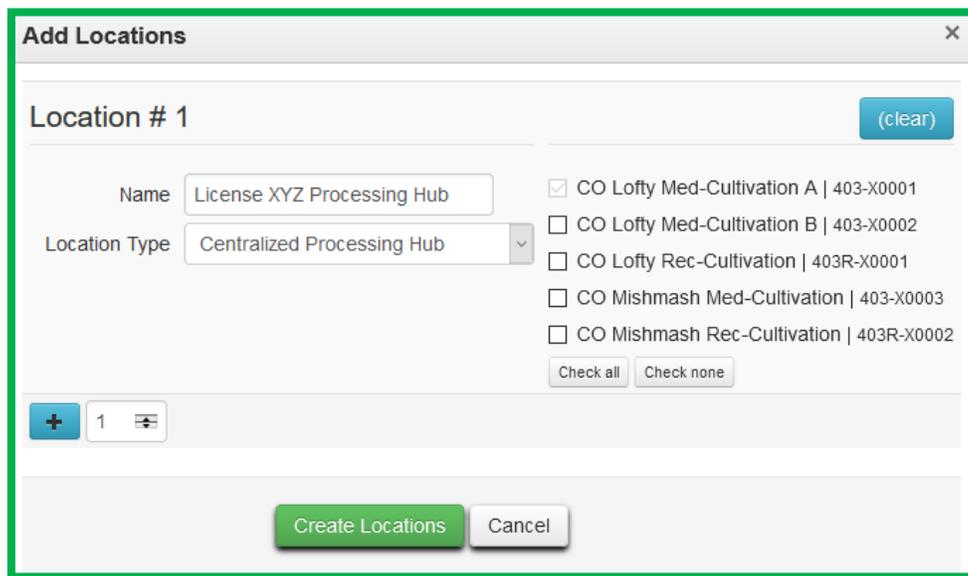

Figure 1: Add New Location
1. Create a new Location with the Location Type Designated as “Centralized Processing Hub”. The name of the Location must be the license number the harvested material is intended to be transferred to. The originating license must create the Centralized Processing Hub Location in their license in advance of transferring harvested material to a license being used as a Centralized Processing Hub as shown in **Figure 1**.